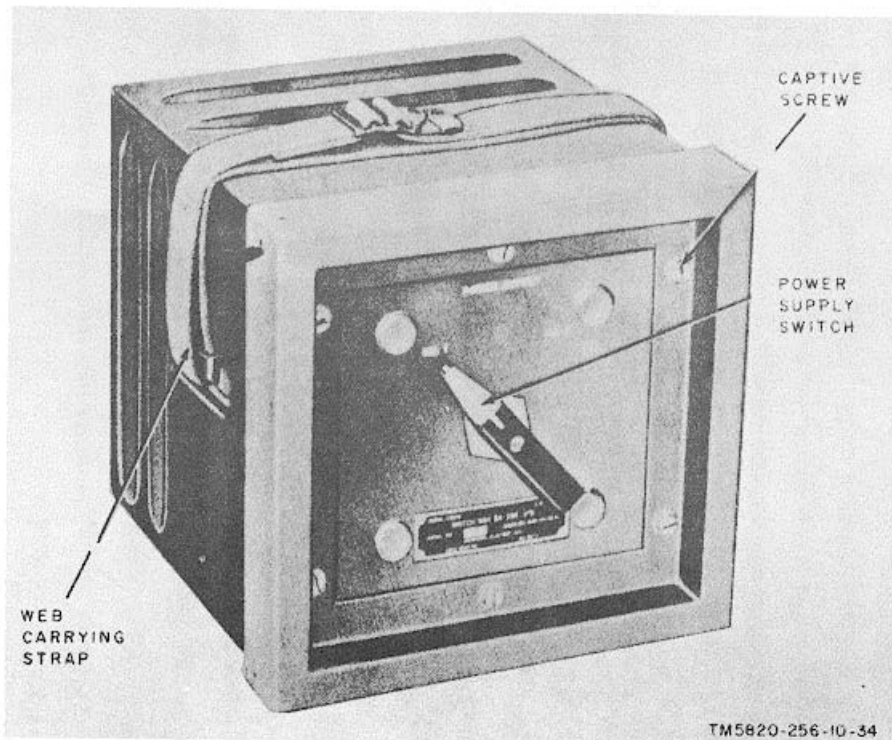

Figure 1-18. Switch Box SA-S11/U, front view.
f. *Switch Box SA-331/U*. The SA-331/U (fig. 1-18 and 1-19), used with the motor-generators and mounted on the motor-generator trailer. It enables the operator to switch from one motor-generator to the other without interrupting the operation of the radio set. The SA-331/U is almost cubical. It is secured in its case by six captive screws on the front and eight captive screws at the rear. The input and output connectors are at the rear of the SA-331/U.